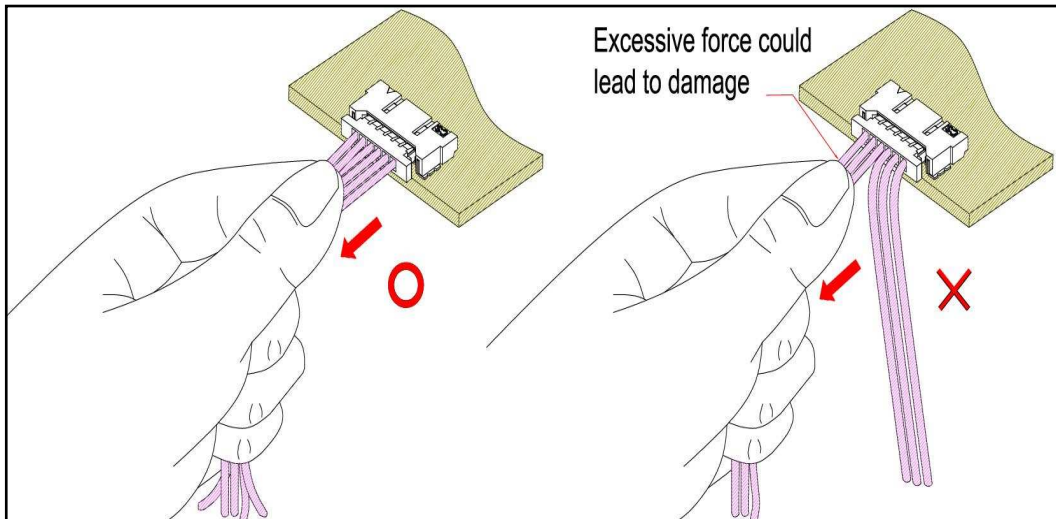

figure 4.1
- ※ Please hold all wires equally to prevent excessive force on certain wires. excessive force could lead to damage. (see figure 4.1)